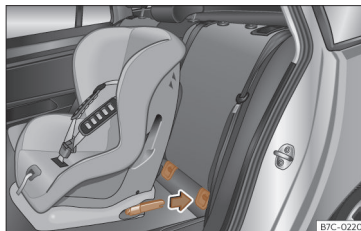

Fig. 26 Rear seats: fitting a child seat with the ISOFIX system.
- Press the child seat onto the “ISO-FIX/iSize” retaining rings until it is heard to engage securely»» Fig. 26. If the child seat is equipped with Top Tether anchor points, secure it to the correspondent ring »» page 37. Follow the child seat manufacturer's instructions.